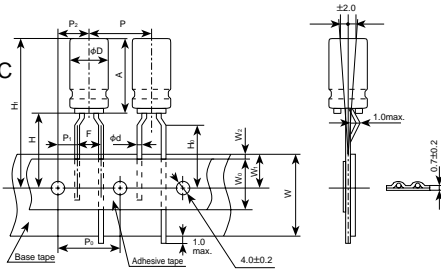

Fig.2
* 1 : For φ4×7 (A=7, F=25), shall be 18.5^{-0.5/+0.75} (Taping code : TD) at Fig.2.